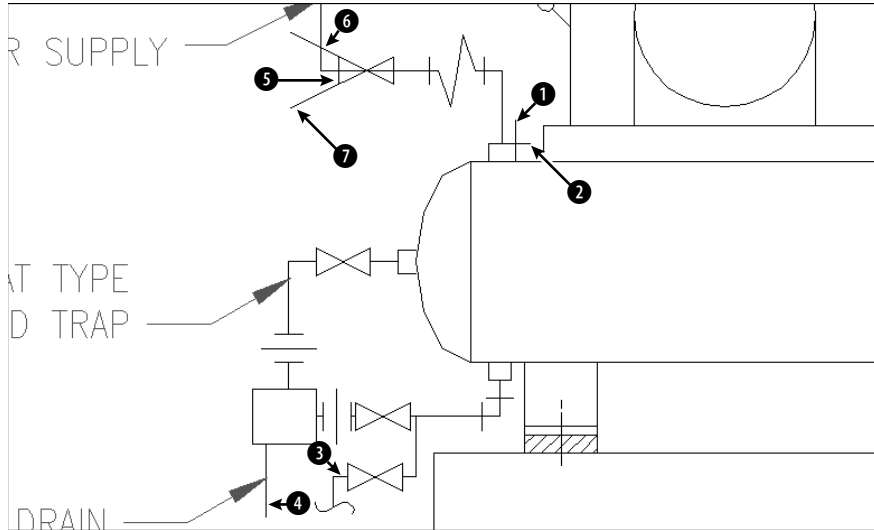

**Figure 10-16:** A schematic of an air compressor.
2. Save the file as ab10-05.dwg in your AutoCAD Bible folder. It looks like Figure 10-16.
3. Start the TRIM command. At the Select objects or <select all>: prompt, pick lines at ❶ and ❷ in Figure 10-16, and then press Enter.
4. At the **Select object to trim or shift-select to extend or [Fence/Crossing/Project/Edge/eRase/Undo]: prompt**, again pick lines at **1** and **2** in Figure 10-16. Be sure to pick them outside the intersection, as shown. Press Enter to end the command.
5. Choose Trim on the Modify toolbar again. At the **Select objects or <select all>: prompt**, pick the line at **3** in Figure 10-16 and press Enter.
7. Pick the line at **4** in Figure 10-16 to trim the line. Press Enter to end the command.